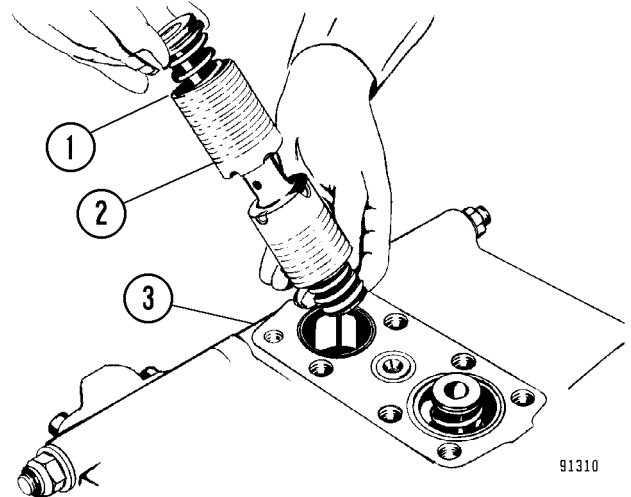

FIGURE 8-10. SPOOL INSTALLATION
2. Install spring (11) in spool (20). Install spring seat (2). Apply Loctite to the threads of spool end (15). Install the spool end and tighten it to **34 N·m (25 ft lb)**. Install green poppet (21). Apply Dri-loc #204 to the threads of plug (3). Install and tighten the plug to **20 N·m (15 ft lb)**.
*NOTE: Poppets (12), (21) and (22) may be color coded and must be installed in their original location.*
3. Repeat Step 2 for the opposite end of spool (20) to install the spring, spring seat, and spool end. Ensure that spring (16) is blue. A poppet and plug are not installed in the lower end.
4. Lubricate the spool assembly and carefully install it in the spool housing as shown in Figure 8-10. Make sure that "V" groove (1) in spool assembly (2) is positioned **up** as noted.
6. Repeat Step 5 for the bottom end of spool (14). Install spring (16) which is blue in color, spring seat (2) and spool end (15). Apply Loctite to spool end threads. Install spool end (15) and tighten to **34 N·m (25 ft lb)**. Install white poppet (22). Apply Dri-loc #204 to the threads of plug (3). Install and tighten the plug to **20 N·m (15 ft lb)**.
7. Lubricate the assembled spool and install it in the spool housing as shown in Figure 8-10. Make sure that "V" groove (1) in spool assembly (2) is positioned **up** as noted.